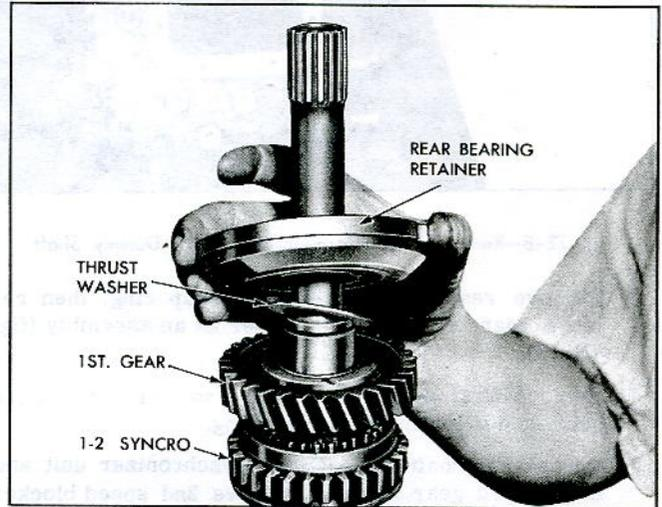

Fig. 7B-14—Installing 1-2 Synchronizer, First Gear, and Rear Bearing Retainer on Mainshaft
3. Install blocker ring in rear of 1-2 synchronizer, being sure that notches in blocker ring engage keys in synchronizer unit. It should be noted that blocker rings used in the 1-2 synchronizer have slightly longer hubs than those used in the 3-4 synchronizer (fig. 7B-13). Then slide first speed gear and its thrust washer onto mainshaft (fig. 7B-14).